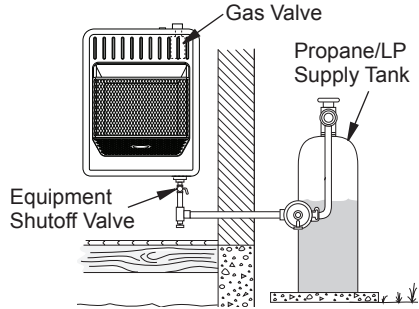

Figure 16 - Checking Gas Joints for Propane/LP Gas
3. Check all joints from gas supply (see Figure 16 or 17) to equipment shutoff valve. Apply a noncorrosive leak detection fluid to all joints. Bubbles forming show a leak.
4. Check all joints from equipment shutoff valve to control valve (see Figure 16 or 17). Apply a noncorrosive leak detection fluid to all joints. Bubbles forming show a leak.